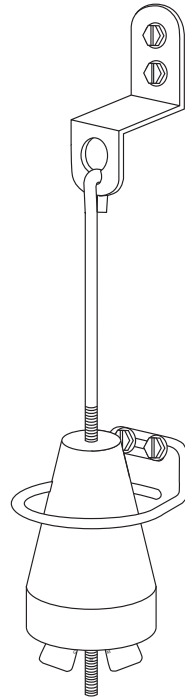

Figure A15. Assembled plumb bob tilt mechanism.
16) Locate the plumb bob weight and nylon wing nut in the loose parts. Locate the plumb bob tilt hanger wire and contact brackets, mounted on the inside, left sidewall of the lower cabinet. Slide the weight onto the straight end of the hanger wire and thread the wing nut onto the shaft underneath it (figure A15). Raising the weight higher up the hanger wire (by tightening the wing nut underneath it) makes the tilt mechanism more sensitive; lowering the weight makes it less sensitive.